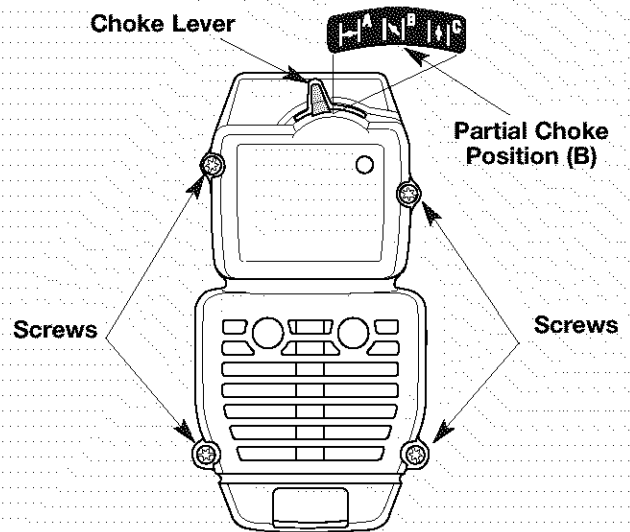

Fig. 13
1. Place the choke lever in the **PARTIAL** choke position (B).
- NOTE:** The choke lever must be in the **PARTIAL** choke position (B) (Fig. 13) to remove the air filter/muffler cover.
2. Remove the four (4) screws securing the air filter/muffler cover (Fig. 13). Use a flat blade or T-20 Torx bit screwdriver.
NOTE: The choke lever must be in the **PARTIAL** choke position (**B**) (Fig. 13) to install the air filter/muffler cover.
2. Insert the four (4) screws into the holes in the air filter/muffler cover (Fig. 13) and tighten. Do not over tighten.